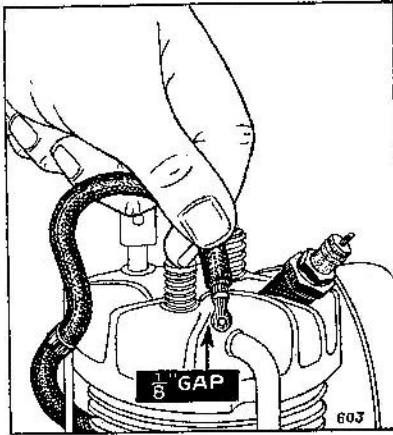

FIG. 3—CHECKING SPARK
23. To be sure that you have a spark at the spark plug you can remove the wire from the plug and hold it within approximately  $\frac{1}{8}$ " of any metal part of the motor (see Fig. 3). Keep the hand back on the insulated part of the wire so